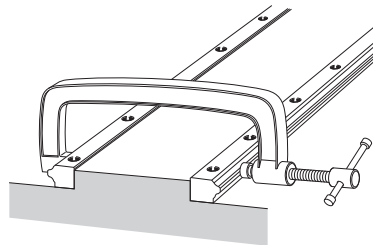

Fig.22
- (2) Use a small vice to press the two LM rails to the base so that they closely contact the reference surface, then tighten the mounting bolts to the recommended torque (see **B1-101**). (Fig.22)
- (3) Mount the LM blocks on the table, then install them onto the LM rails. Be sure the mounting bolts for the LM blocks are temporarily fastened.
- (4) Tighten the clearance adjustment bolt alternately to adjust the clearance.